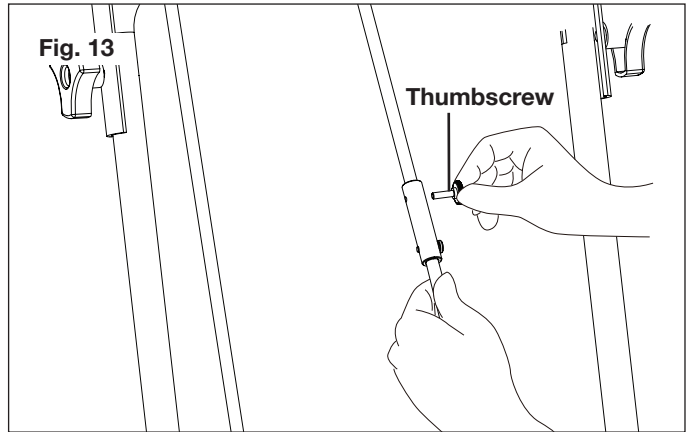

Fig. 13
- Align the holes on the connector with the holes on the upper crank rod, insert the thumbscrew and turn clockwise to secure it (Fig. 13).